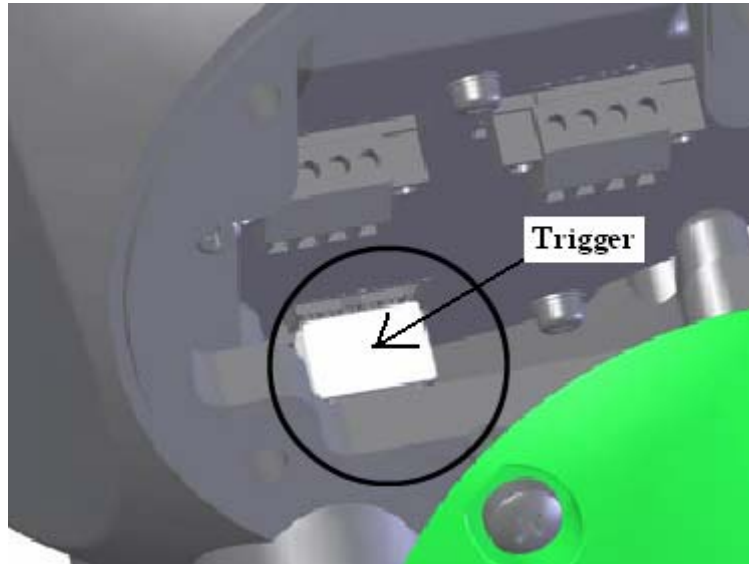

Figure 14 White Connector
4. Carefully pull the electronic card out 2 cm from the scanner head and unplug the white connector, on the back of the electronic card, from the rear side of the scanner head (this cable connects the electronic card to the transducers and the thermistor). To release the white connector, carefully push and pull the trigger on the white connector (see *Figure 14*).